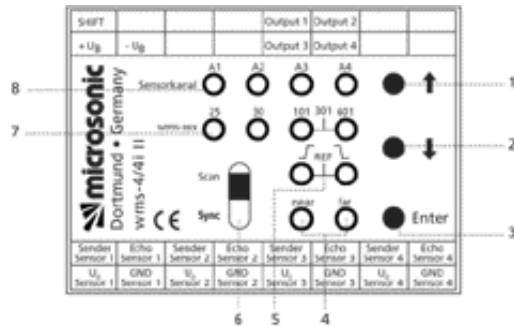

Fig. 2 Controls and LEDs showing sensors connected
- The controller can control the wms sensors either simultaneously (synchronous mode) or successively (scan mode or multiplexmode). The choice of operating mode (selected by way of a slider switch on the front, see Fig. 2) depends on the application.
- Attach the sensors to the screw terminals for inputs 1...4 (see Fig. 2). The wms-4/4i II can be operated with 1, 2, 3 or 4 sensors.